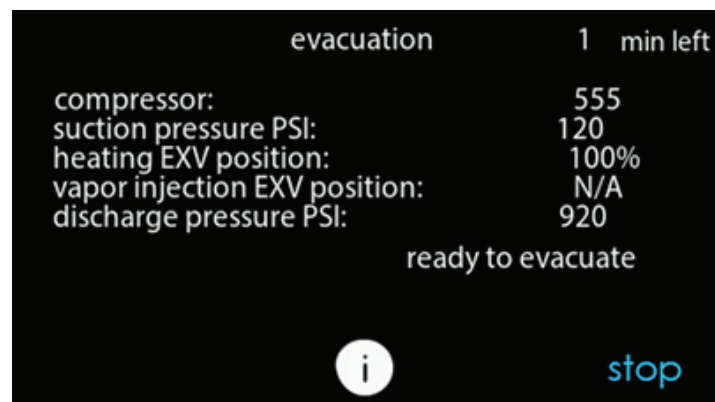

Fig. 24 – Evacuation Status Screen
5. Begin evacuation or refrigerant recovery as required for the procedure after UI indicates the EXV is open. Power may be removed from heat pump after the UI indicates "READY TO EVACUATE." See Fig. 24.